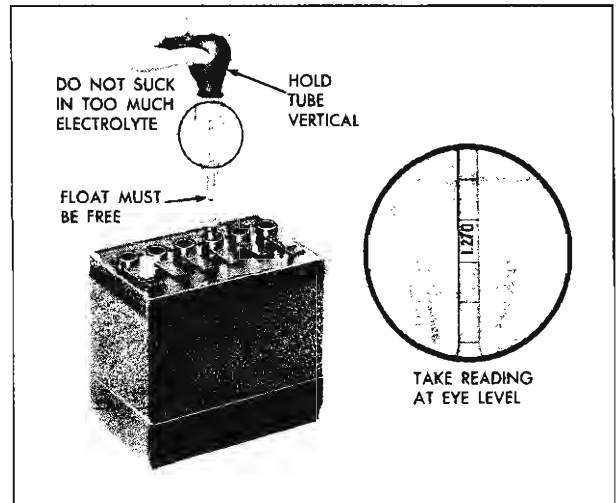

Fig. 7—Testing Specific Gravity of Battery
1. Measure the specific gravity of the electrolyte in each cell (fig. 7). If it is below 1.230 (corrected to 80°F.) recharge with a slow rate charger, or if desired, further check battery.